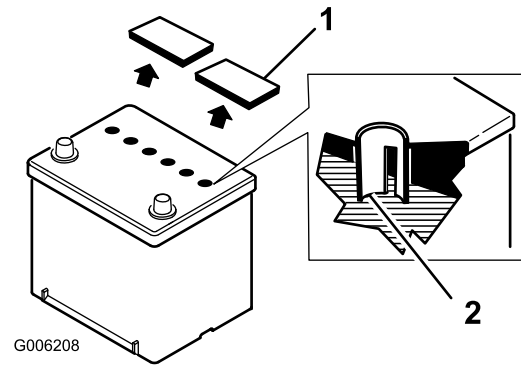

Figure 39
2. Remove the vent caps from the top of the battery and look into the cells. The electrolyte should be up to the lower part of the tube in each cell (Figure 39).
2. Remove the vent caps and slowly pour distilled water into each cell until the level is up to the lower part of the tube in each (Figure 39).